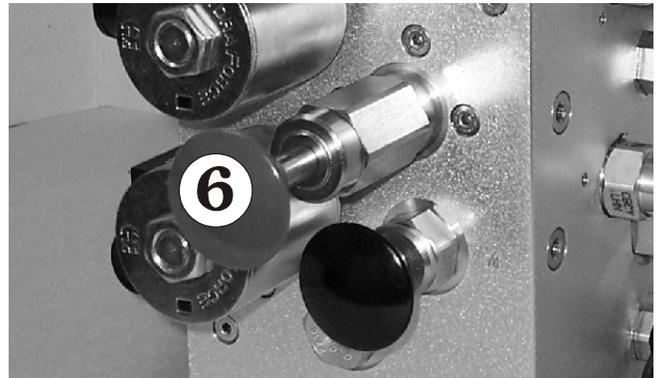

Figure 9.10
4. To release the brakes, pump the hand pump ⑥ 5 - 10 times. (see Figure 9.10). The brakes will now be released and the S2255RT / S2755RT is ready to be pushed or towed.